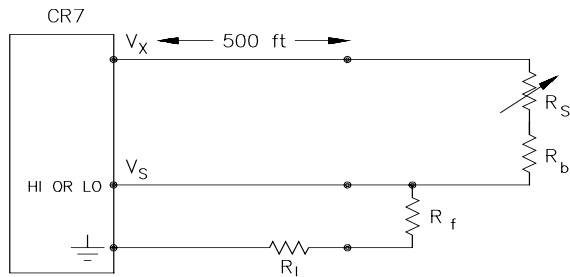

FIGURE 13.3-9. Incorrect Leadwire Extension on Model 107 Temperature Sensor
6. Most Campbell Scientific sensors are configured with a small bridge resistor, R_f , (typically 1 kohm) to minimize the source resistance. If the lead length of a Campbell Scientific sensor is extended by connecting to the pigtails directly, the effect of the lead resistance, R_l , on the signal must be considered. Figure 13.3-9 shows a Campbell Scientific Model 107 sensor with 500 feet of extension lead connected directly to the pigtails. Normally the signal voltage is proportional to $R_f / (R_s + R_b + R_f)$ but when the pigtails are extended the signal is proportional to $(R_f + R_l) / (R_s + R_b + R_f + R_l)$. R_l is much smaller than the other terms in the denominator and can be discarded. The effect on the signal can be analyzed by taking the ratio of the signal with extended leads, V_{S1} to the normal signal, V_S :